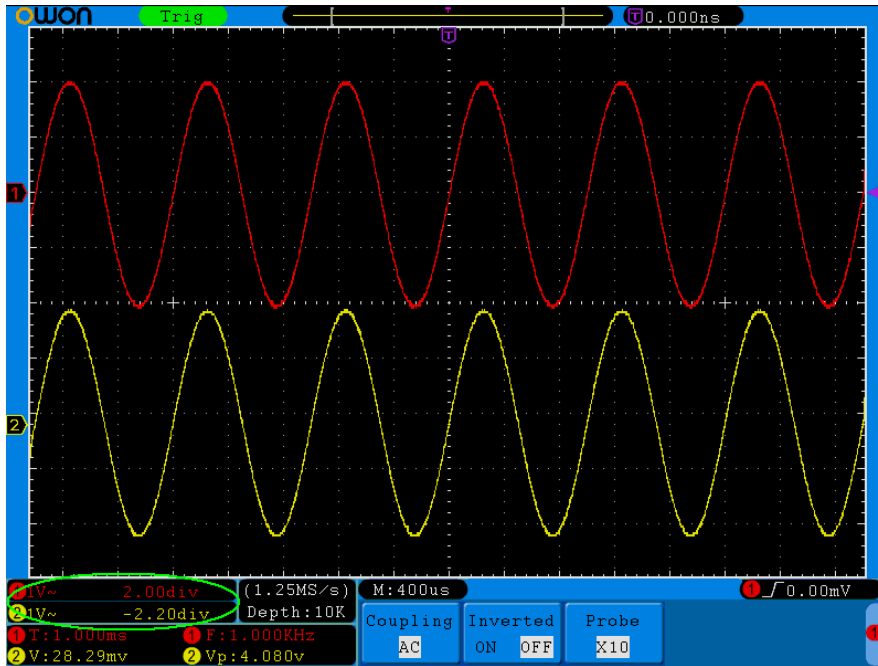

Figure 5-12 Information about Vertical Position
3. When the vertical position of the channel waveform is adjusted, the changed value is displayed at the left bottom corner of the screen (see *Figure 5-12*).